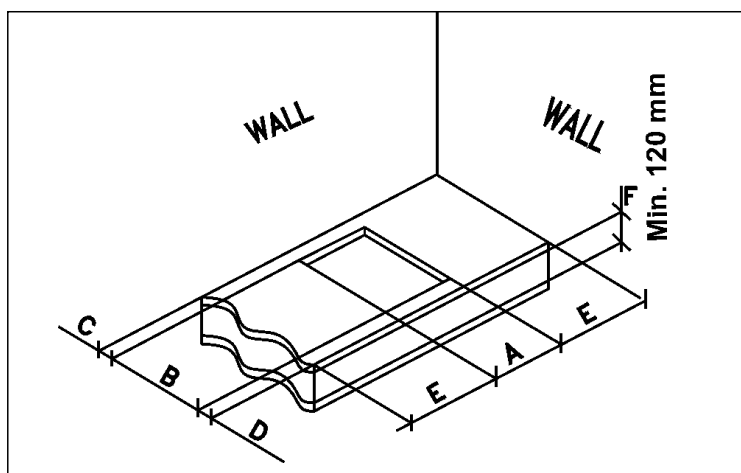
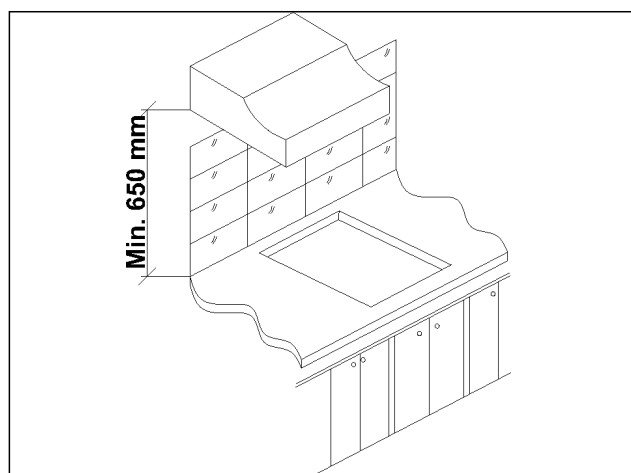

FIG. 5
FIG. 6
Make a cutout in the worktop, according to the dimensions indicated in fig. 5; make sure that will be respected the critical dimensions of the space in which the appliance has to be installed (fig. 5) and minimal dimension for fig.6.
- In order to avoid accidental touch with the overheating bottom of the hob, during the working, is necessary to put a wooden insert, fixed by screws, at a minimum distance of 120 mm from the top (see fig. 5).